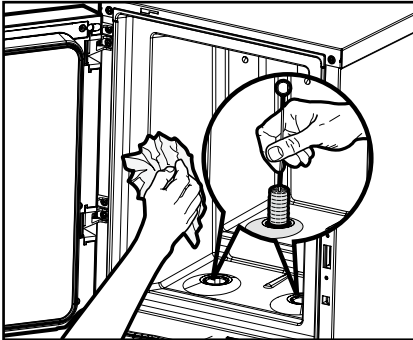

Fig. 21
4. Clean the interior of the cooling compartment with a clean, damp cloth and the doser opening with a brush (fig. 21).